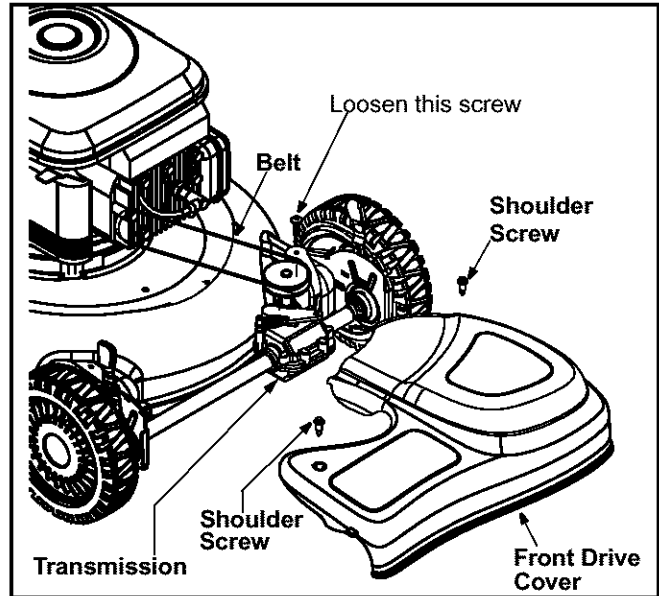

Figure 14
- Remove two shoulder screws securing the front drive cover to the mower deck. See Figure 14.
- Using a torx wrench, loosen the screw holding the belt tension spring to the transmission. See Figure 14. Do not remove the screw completely. As you loosen it, the tension on the belt will be released.